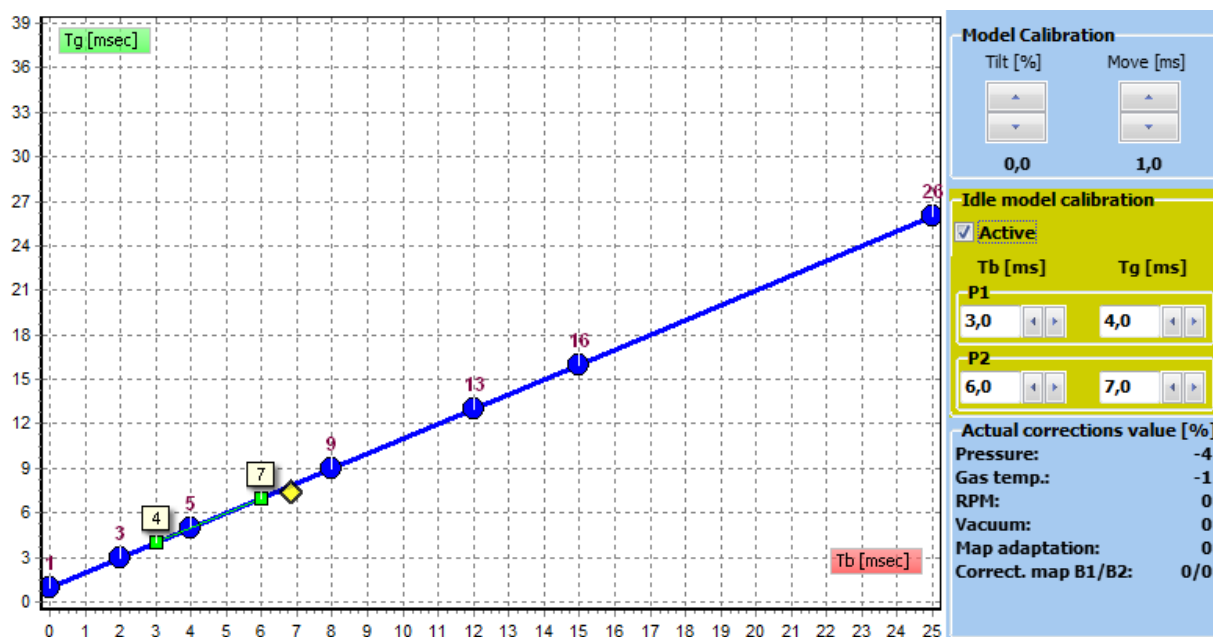

Fig. 3.31 Idle model on Model chart.
- **Idle model calibration** - enables using additional model for the idle work. This model is represented by points P1 and P2 (**Fig. 3.31**). Thanks to that, idle work can be richer or leaner than it would be with normal model. P1 and P2 coordinates are calculated during autocalibration, but may be also set manually.